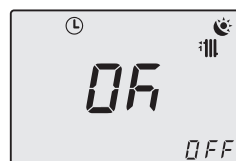

Fig. 2.24
Press key 19 briefly to save the values entered and upon leaving the menu, the display will indicate **OK** to confirm (Fig. 2.24).